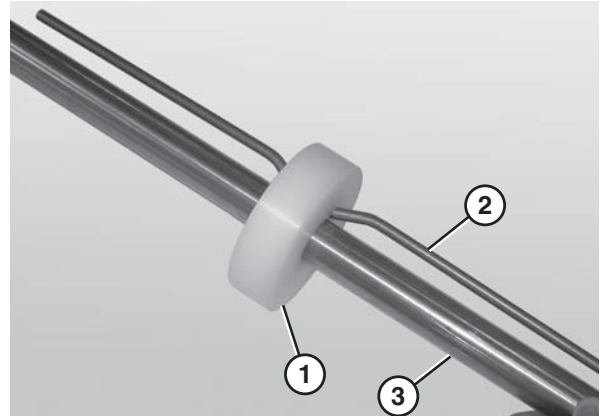

Figure 88
1. Place the idler puck (Figure 88, item 1) at the center of the bent retaining bar (Figure 88, item 2).
2. Slide the idler puck onto the idler shaft (Figure 88, item 3). Make sure to center the idler puck.